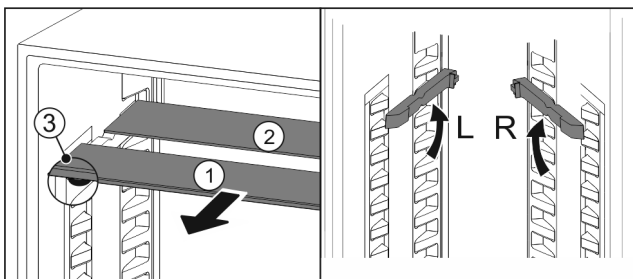

Fig. 29
- ▶ Pull the glass panels out Fig. 29 (1) from the front, one at a time.
- ▷ The glass panel Fig. 29 (1) and trim strip are at the front.
- ▷ The stops Fig. 29 (3) point down.